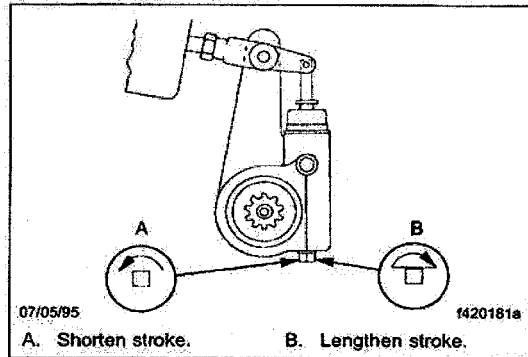

Fig. 11.20, Brake Stroke Adjusting
Turn the adjusting nut one-eighth turn, as shown in Fig. 11.20. Measure the stroke again and adjust until correct.
- Turn the adjusting nut one-eighth turn (Fig. 11.20). Measure the stroke again and adjust until correct.